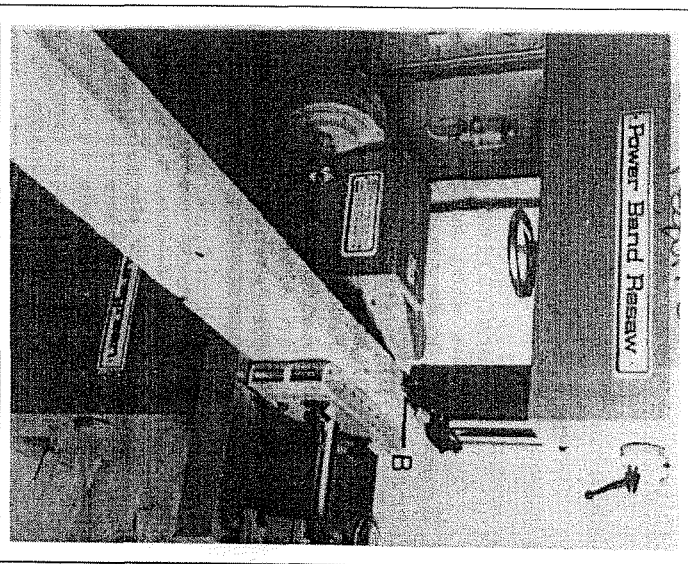
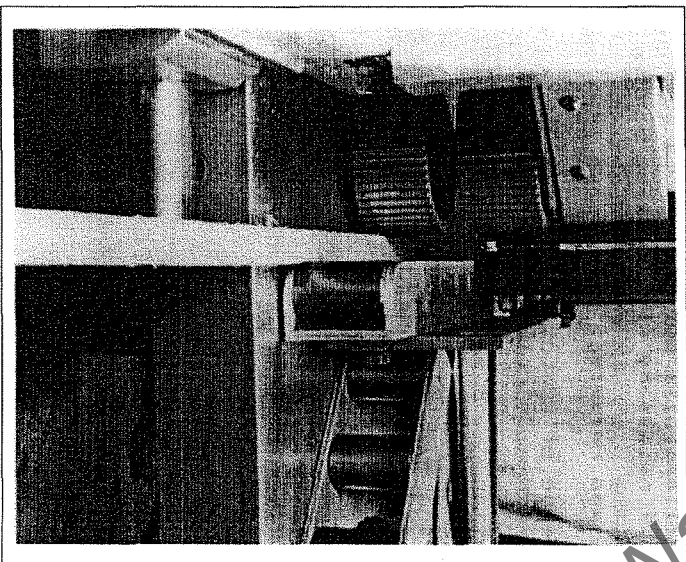

Fig 33
Fig 34
- b) Deep thin stock (FIG 33).
- c) Small sections (FIG 34).
5. Adjust top guide (see 'B' FIG 33) as close as practical to suit stock depth, remove top fence section if necessary (see FIG 34).